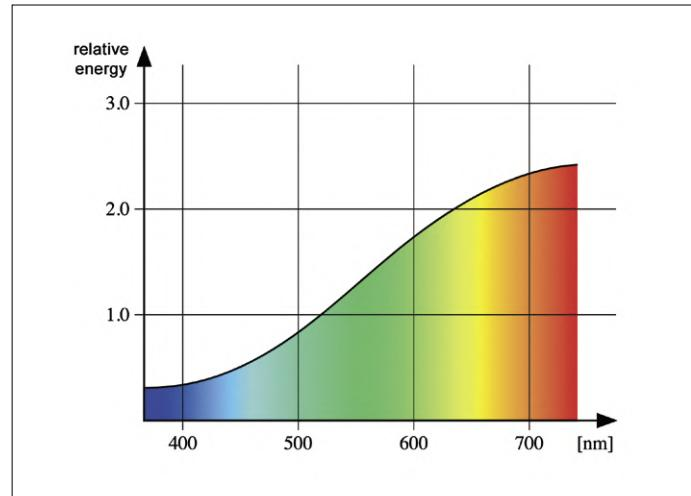

Figure 4: Shape of the light spectrum of halogen lamps. There is not much blue. (image: Jean-Jacques MILAN, GNU CCL 1.2, CCASA 3.0 [5]).
After publishing this project in the October & November 2019 edition, some mistakes were discovered in two drawings. First, the schematic in Figure 4 shows the normally-open (NO) and normally-closed (NC) contacts of relays RE1 and RE3 swapped. The labels and wiring of terminal K11 were also erroneous; the corrected schematic diagram is shown here.
The wishes of the car DIYers’ scene were quickly recognized by the industry. Since xenon light has become more common in road traffic, it is increasingly possible to buy halogen lamps that promise bluer light. This is achieved by simply colouring the glass body blue. Looking at **Figure 4**, not only does it help much, but reduces the luminous efficacy. The light spectrum of halogen lamps is very red. The blue coating only attenuates longer-wavelength light components but fails to offer additional blue light. The result actually looks a bit bluer, yet is not brighter, but rather darker. If you buy something like this, your physics may be a bit rusty.